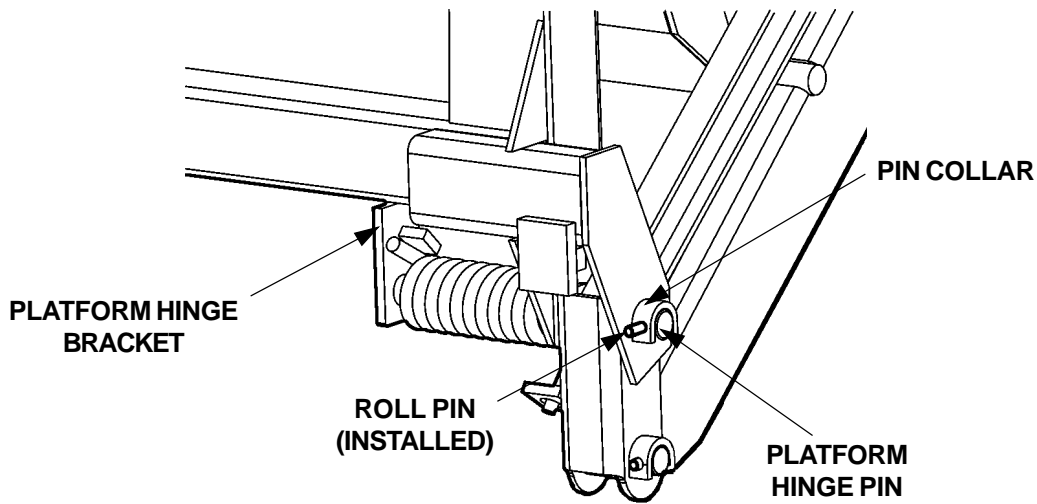

FIG. 6
5. Drive Platform Hinge Pin into correct position through the Platform Hinge Bracket with a hammer and pin punch as shown in **(FIG. 6)**. Line up the hole in the Platform Hinge Pin with the hole in the Pin Collar. Install the roll pin through the Pin Collar until roll pin protrudes equally from both sides of the collar **(FIG. 6)**.